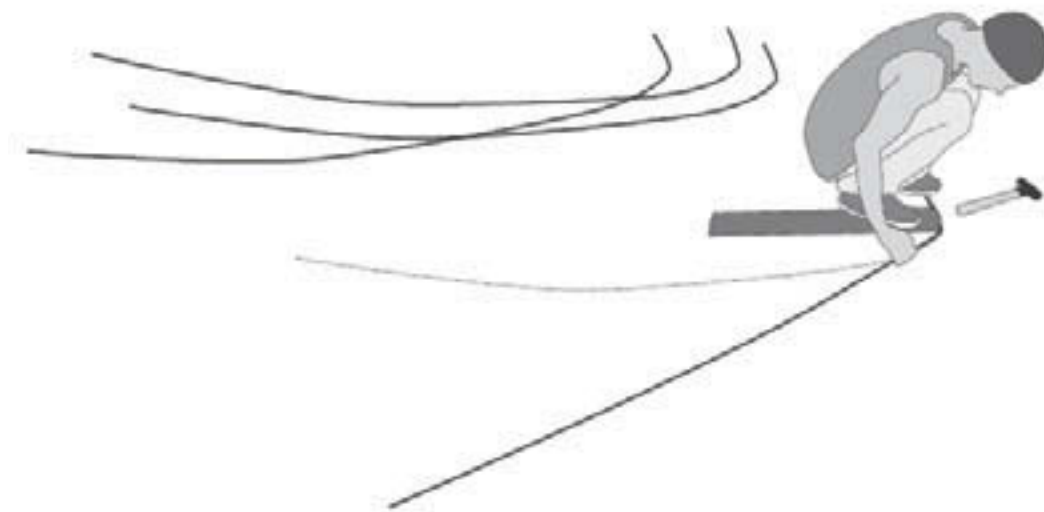

Fig. 14: Bending rebar for the tank form
3. Cut a piece of steel bar, of the proper length, for each vertical piece needed. Draw the shape of the vertical pieces on a flat concrete or wooden surface. (To determine the length and shape of the vertical pieces refer to the sample designs in Appendix D or the form design instructions in Appendix B). Then, using a hammer and the pieces of scrap lumber, bend the steel bar into the proper shape (see figure 14).